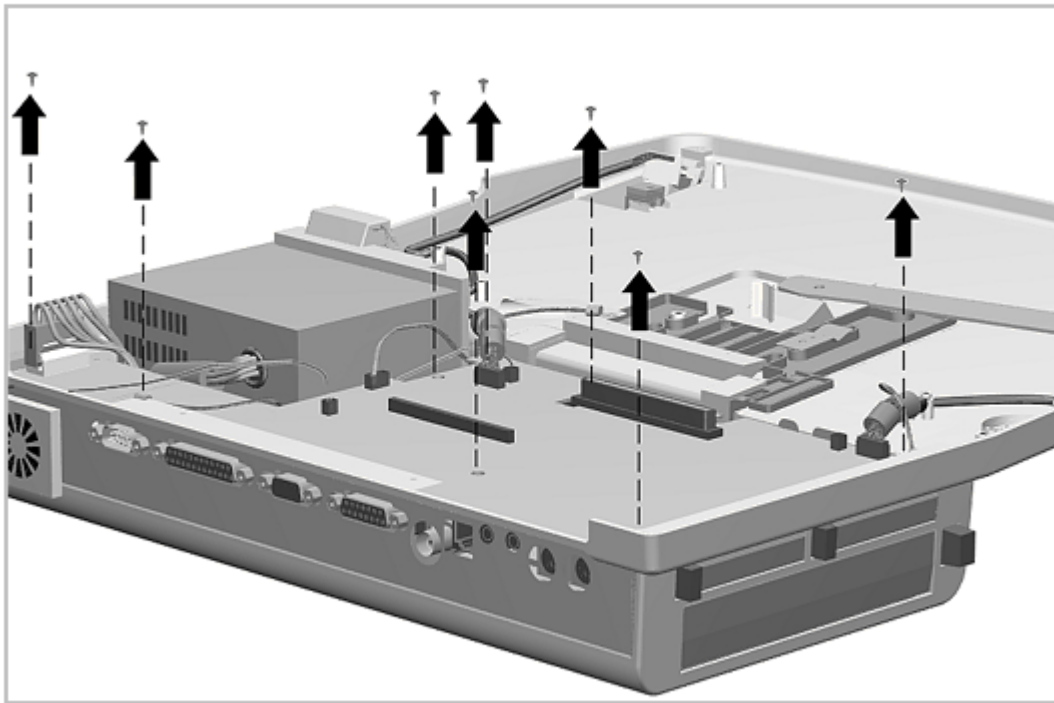

Figure 7-19. Removing the Main Board Screws
5. Remove the screws from the main board and the two screws from the CPU connector bezel (Figure 7-19).